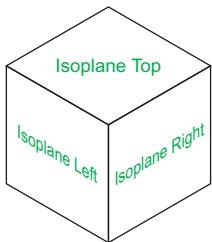

Fig. 7.16 The three isoplanes
2. There are three isometric angles – **Isoplane Top**, **Isoplane Left** and **Isoplane Right**. These can be set either by pressing the **F5** function key or by pressing the **Ctrl** and **E** keys. Repeated pressing of either of these “toggles” between the three settings. Fig. 7.16 is an isometric view showing the three isometric planes.